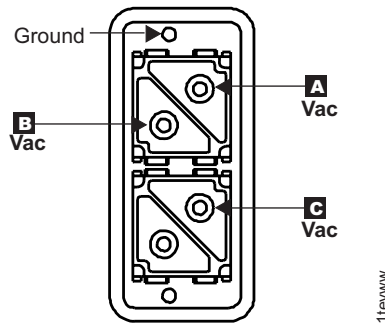

Figure 79. Mainline power cable connector
2. Measure the voltage between each pair of voltage pins on the female connector on each mainline power cable. Also, measure the voltage between each voltage pin (A, B, and C) and the ground pin on each mainline power cable. Refer to Figure 79 on page 94.